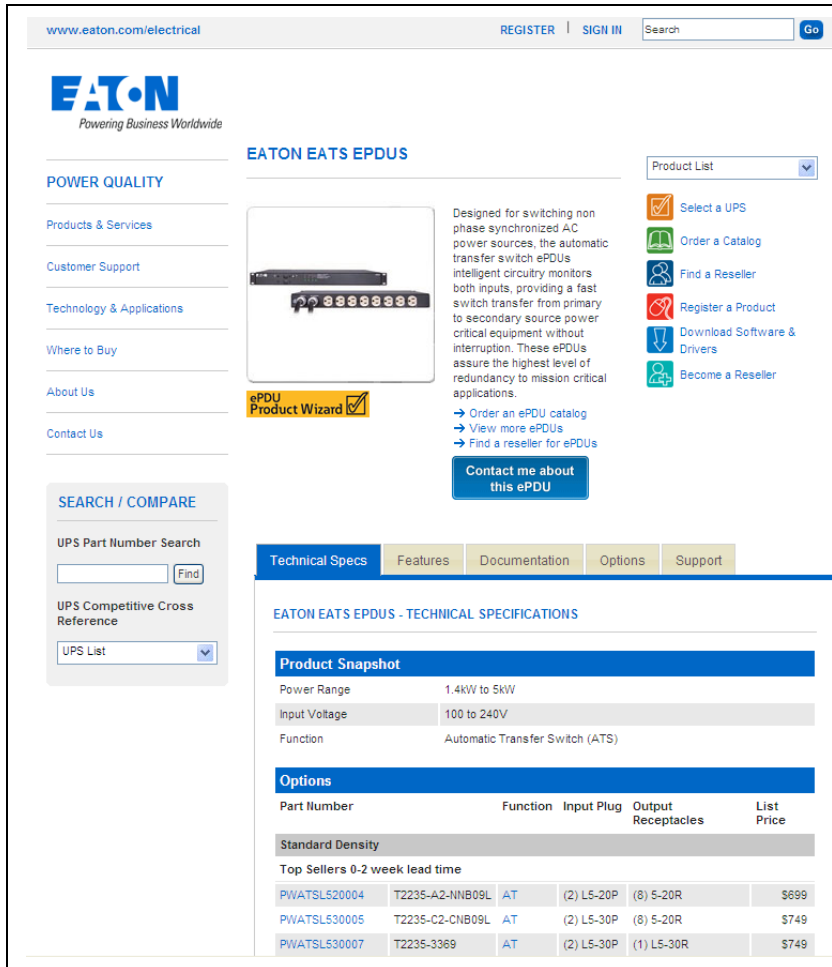

Figure 13. EATON EATS EPDUS Main Page
- Click the **Technical Specs** tab to see a comprehensive list of all eATS ePDUs in the product line (see Figure 13).
3. Browse the list for your selection. Click the blue highlighted part number link in the first column to access a specific T2235 Series eATS ePDU technical specification data sheet (see Figure 13).